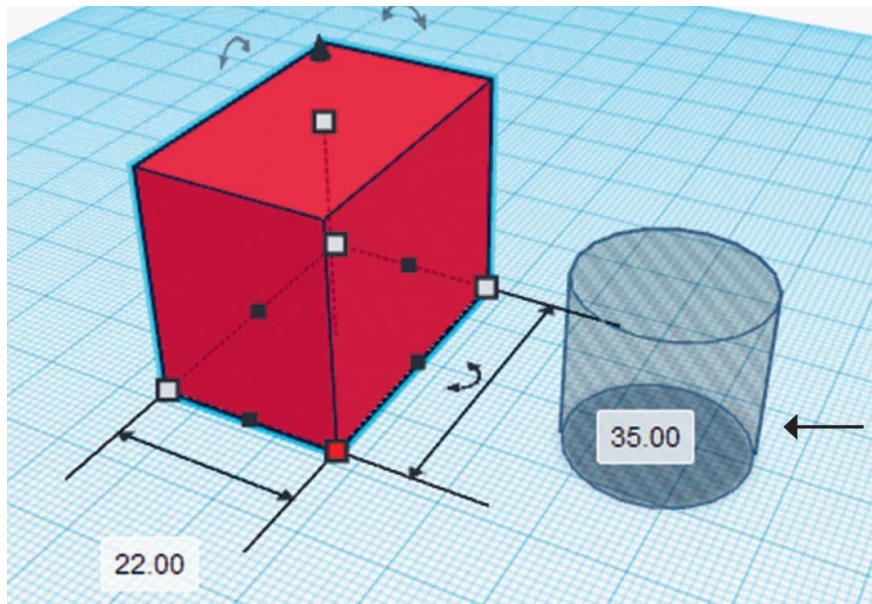

FIG. 1: A cube and a cylinder hole on the workplane.
2. Drag a **Cylinder Hole** onto the workplane to a point where it does not touch the initial cube (fig. 1). Make sure the height of the cylinder is much taller than the cube. Make sure the remaining dimensions of the cylinder are about half the cube.